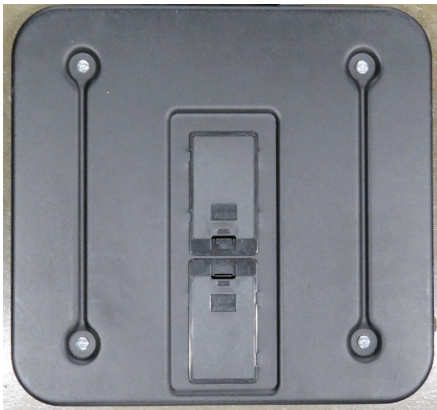

Figure No. 1
3. Referring to Figure No. 1, locate the two (2) rectangular panels in the scale base.